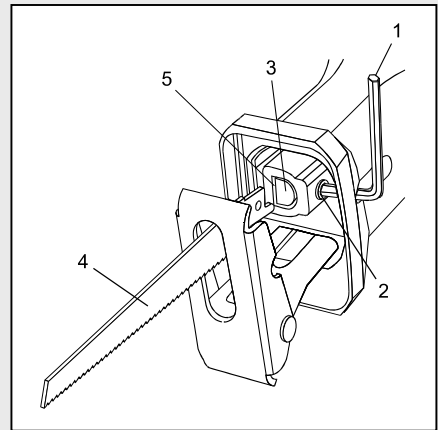

Fig. 1
1. Insert the 4 mm hex key (1) into the blade clamp set screw (2) and turn it counter-clockwise to loosen the blade clamp (3) (Fig. 1).
2. Fully insert the appropriate blade (4) into the slot (5) in the center of the blade clamp.